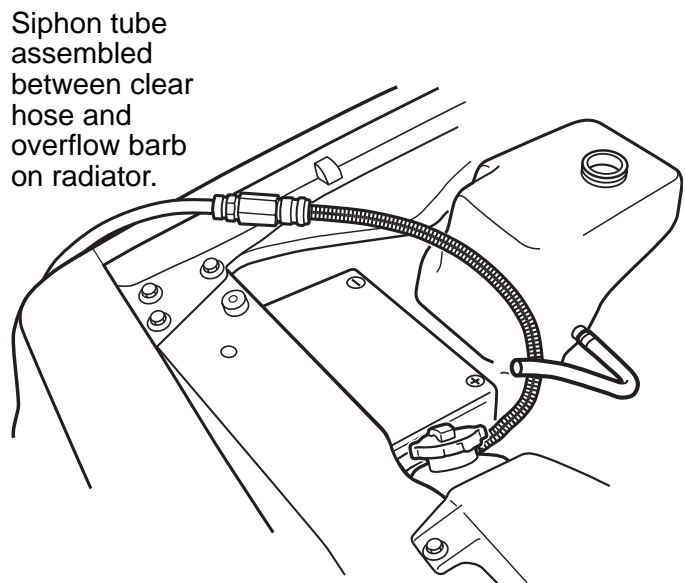

Figure 5
4. Connect the coupler end of the siphon tube to the clear hose from the 75700 unit. See Figure 5.